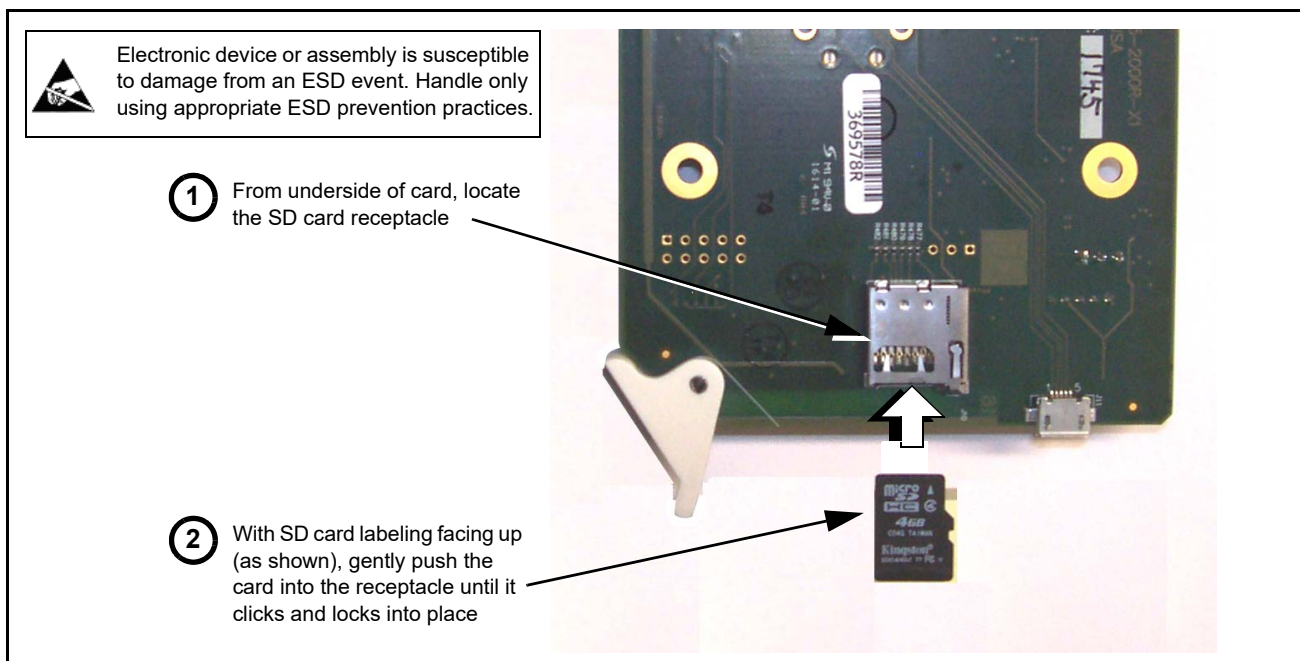

Figure 3-10 SD Card Installation
1. (See Figure 3-10.) Make certain the card has the proper SD card installed in the under-card slot. If SD card is **not** installed, contact Product Support to obtain an SD card.